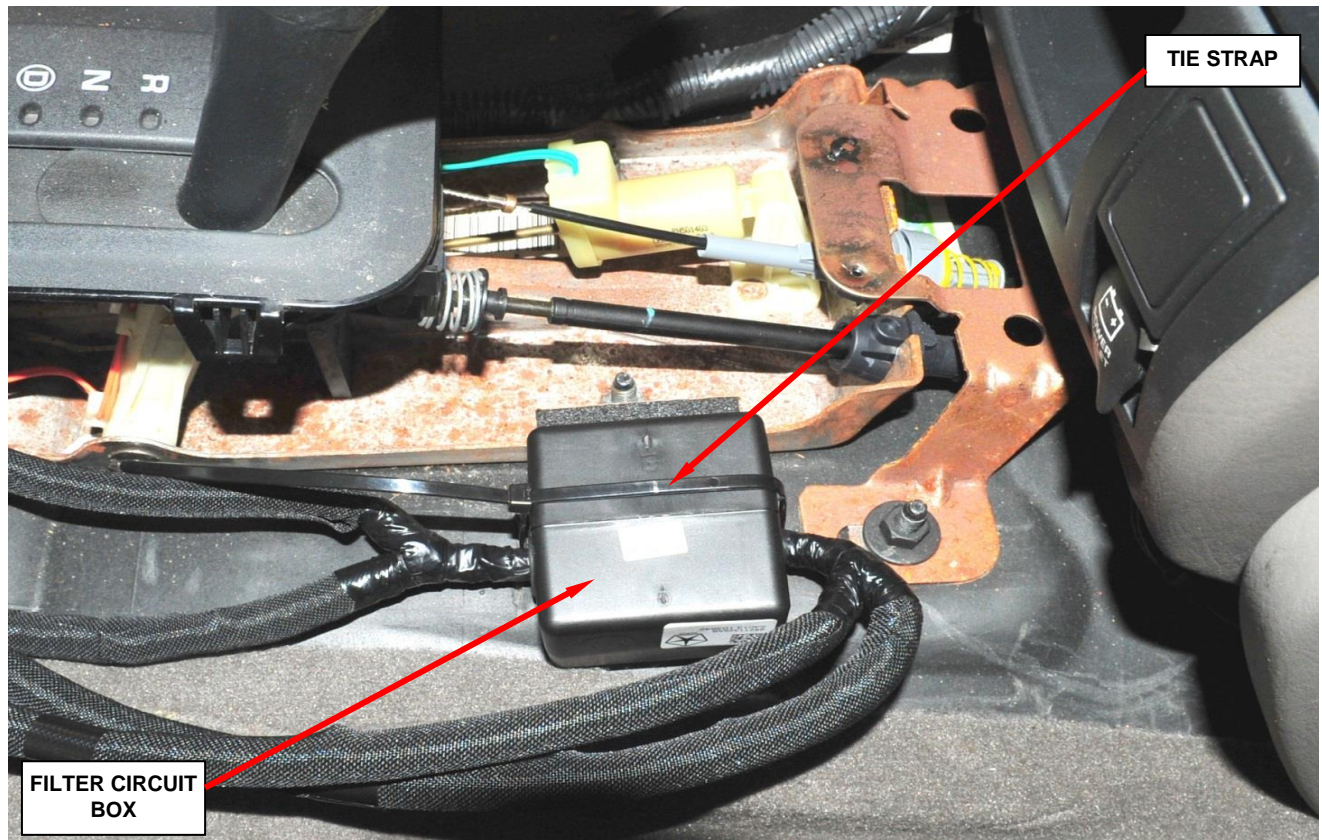

Figure 23 – Secure Filter Circuit Box with the Tie Strap
14. Place the filter circuit box into position and tie strap the circuit filter box to the floor insulation pad (Figure 23).